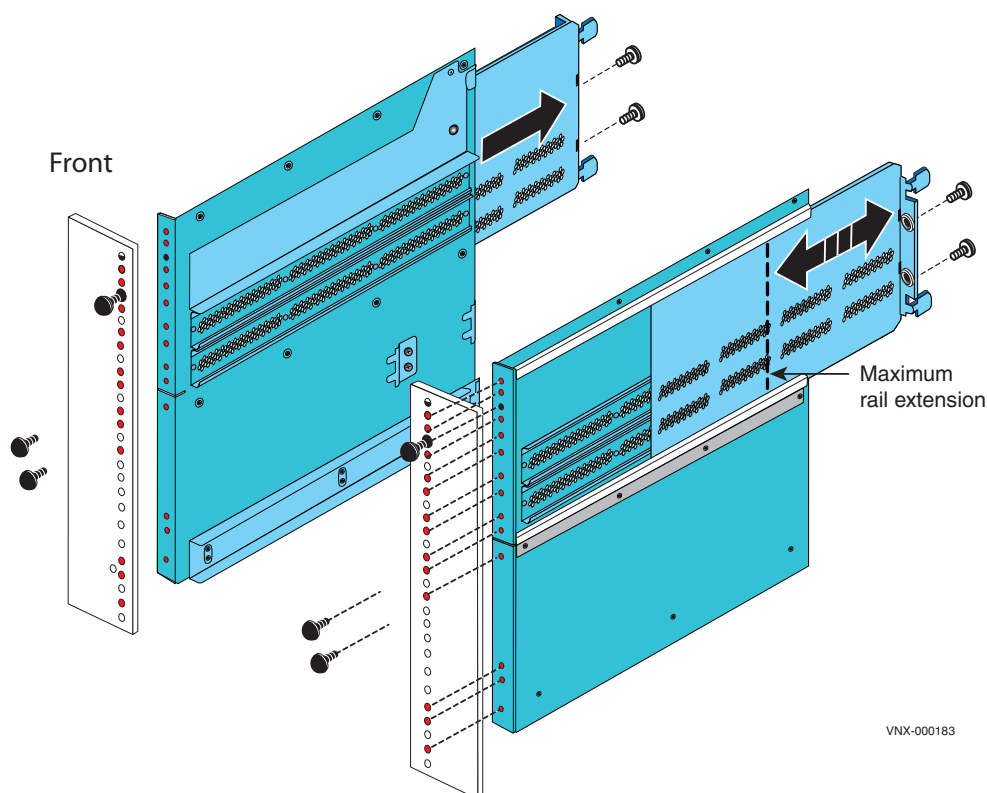

Figure 4 Installing rails
1. Slide the 8U ganged rail into the appropriate location in the site rack (for space considerations find the lowest available space) as shown in Figure 4.